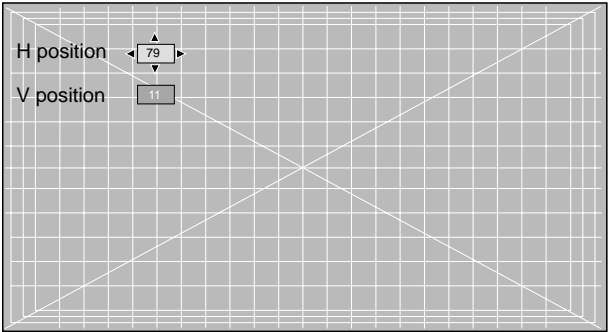

Fig.2
- TV set display the adjustment pattern (Fig.2)